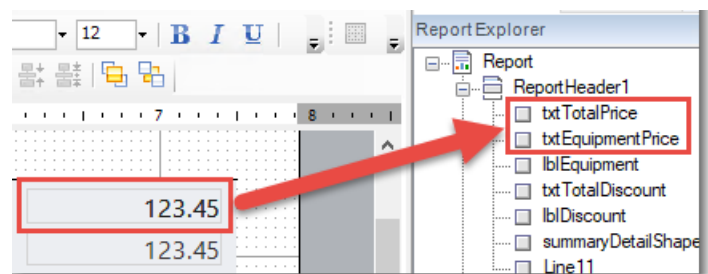

Figure 10. Select textboxes from the Report Explorer
- Now repeat steps 1-5 for the 'Project Summary Detail' subreport. This report should have 21 text items to update. Note that the 'ReportHeader1' section has five text items. Two pricing textboxes are stacked on each other. Try selecting them individually from the Report Explorer and updating the font (See Figure 10).